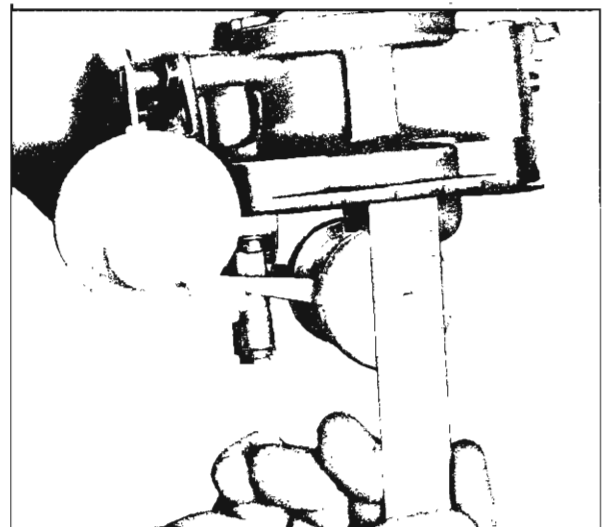

Fig. 10—Float Drop Adjustment
6. Hold cover in upright position and check float drop measurement between gasket and lower edge of float (fig. 10).